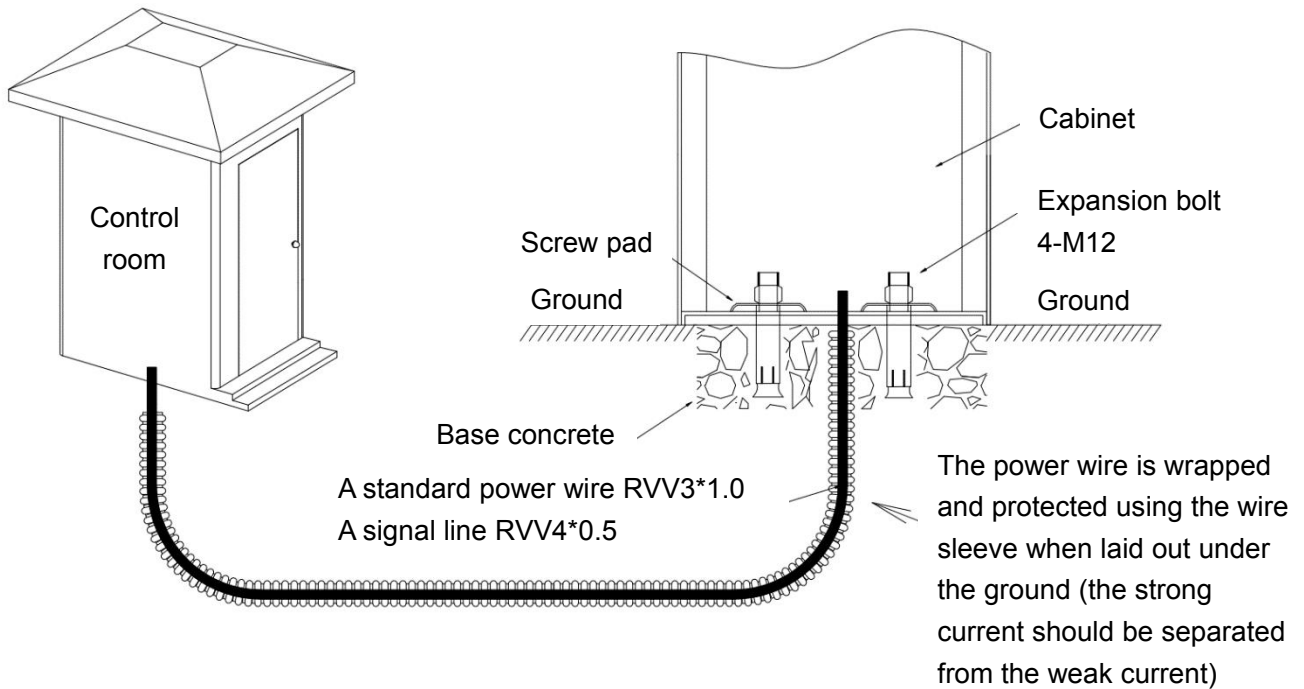

Figure 1 Cable embedding
- 3) Use a tool to open a cable tray on the ground, see figure 1.